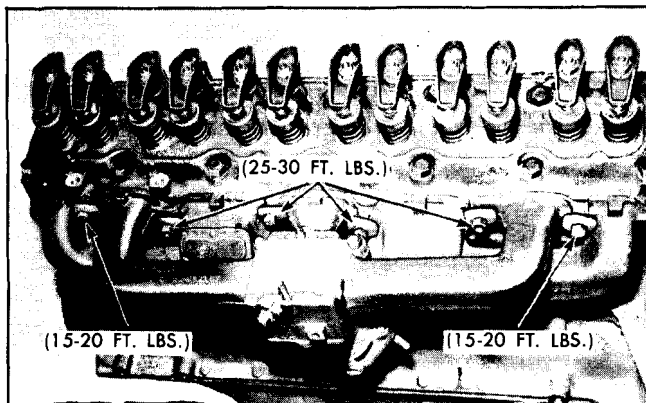

Fig. 6-20 Manifold Attaching Points
6. Tighten center clamp bolts to 30 lb. ft. and end bolts to 20 lb. ft. (Fig. 6-20).